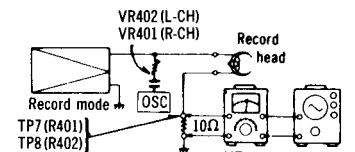

Fig. 16
<p>① Bias current</p> <p>Condition:</p> <ul style="list-style-type: none"> * Record mode * Tape selector <ul style="list-style-type: none"> ... Normal position ... Fe-Cr position ... CrO₂ position ... Metal position <p>Equipment:</p> <ul style="list-style-type: none"> * VTVM * Oscilloscope 	<ol style="list-style-type: none"> Test equipment connection is shown in fig. 16. Place UNIT into record mode, and tape selector to normal position. Read voltage on VTVM and calculate bias current by following formula: $\text{Bias current (A)} = \frac{\text{Value read on VTVM (V)}}{10 (\Omega)}$ <div style="border: 1px solid black; padding: 5px; text-align: center;"> Standard value: $0.7 \pm 0.3 \text{ mA}$ (Normal position) </div> <ol style="list-style-type: none"> Adjust VR402 (L-CH) and VR401 (R-CH). Set the tape selector to each position. Make sure that the measured value is within standard. <div style="border: 1px solid black; padding: 5px; text-align: center;"> Standard value: $0.75 \pm 0.3 \text{ mA}$ (Fe-Cr position) $1.0 \pm 0.3 \text{ mA}$ (CrO₂ position) $1.6 \pm 0.3 \text{ mA}$ (Metal position) </div>